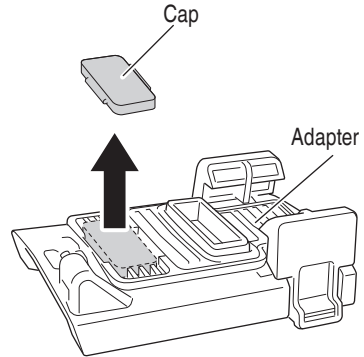
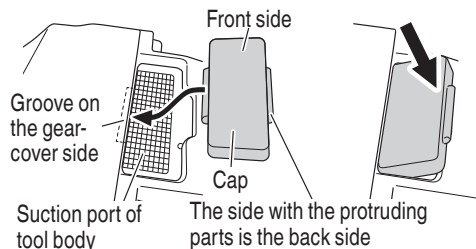

Fig. 9
Fig. 10
- (3) Remove the cap from the adapter and attach it to the suction port. (Fig. 9, Fig. 10)
Insert the protruding part of the cap into the groove on the gear-cover side, then press in the entire cap. (Fig. 10)